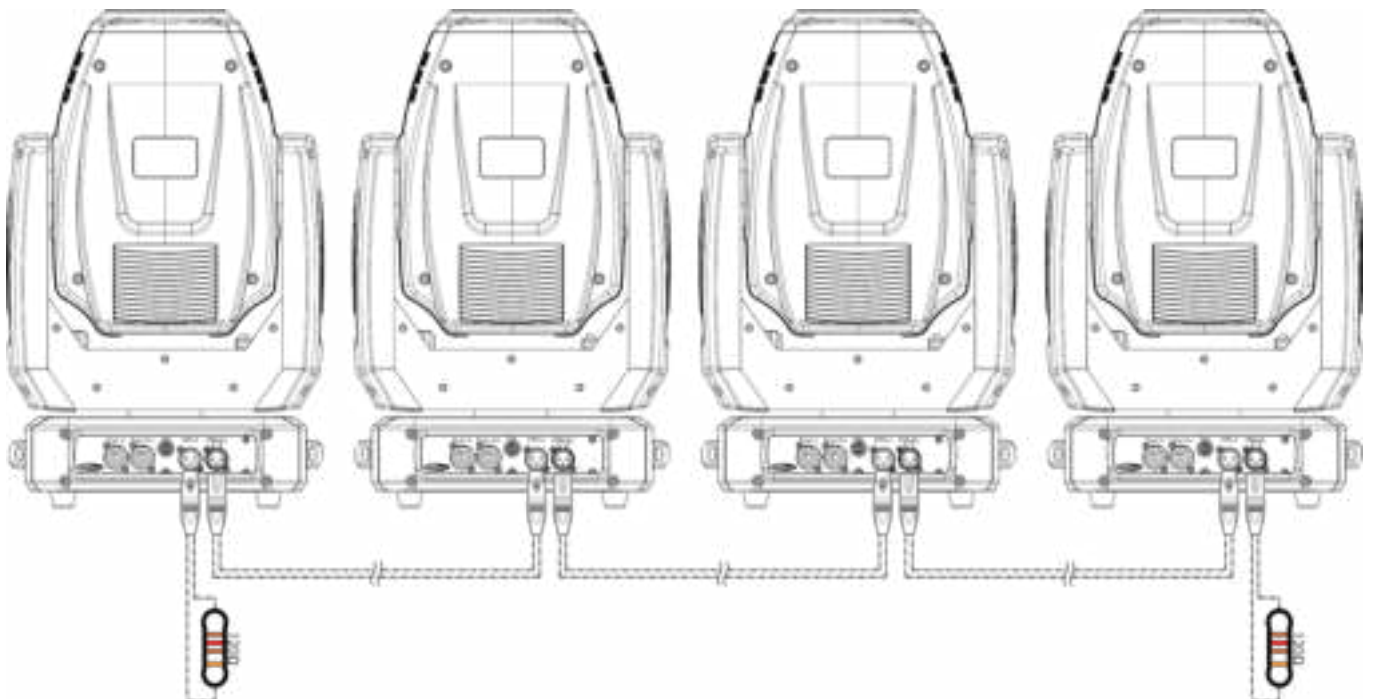

Fig. 08
- 03) Link the units as shown in fig. 08. Connect the first unit's DMX "out" socket with the second unit's "in" socket, using a DMX-signal cable. Repeat this process to link the second, third, and fourth units. You can use the same functions on the master device as described on page 15-16 (Auto mode, Manual mode or Sound-controlled mode). This means that you can set your desired operation mode on the master device and all slave devices will react the same as the master device.